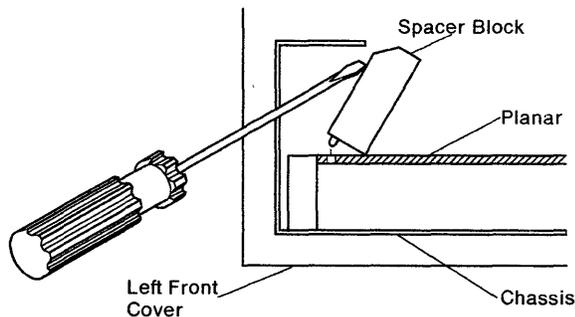

Figure 3-28. Removing Spacer Block
5. Carefully remove the spacer block from between the chassis and the planar. See Figure 3-28.